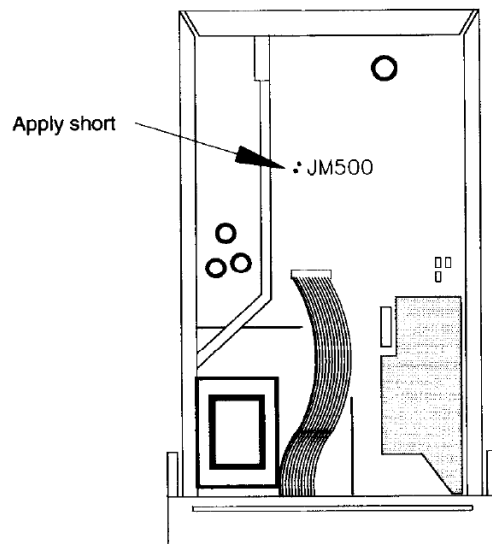

Figure 3-1 Applying short on JM500
- 4 Apply a short between the two exposed metal pads on JM500 as shown in Figure 3-1.